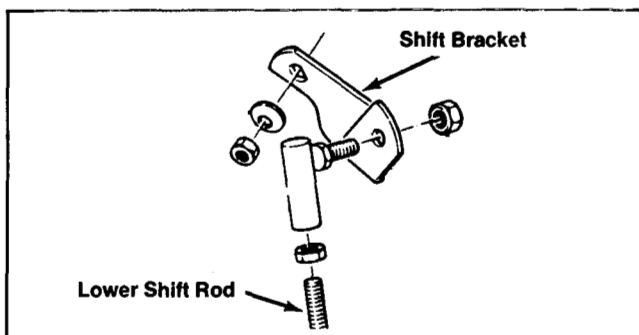

Figure 41
5. Attach the lower shift rod to the shift bracket with the nylon locknut as shown in Figure 41. Make certain that the ball joint is in the position shown or the shift mechanism will not work properly.